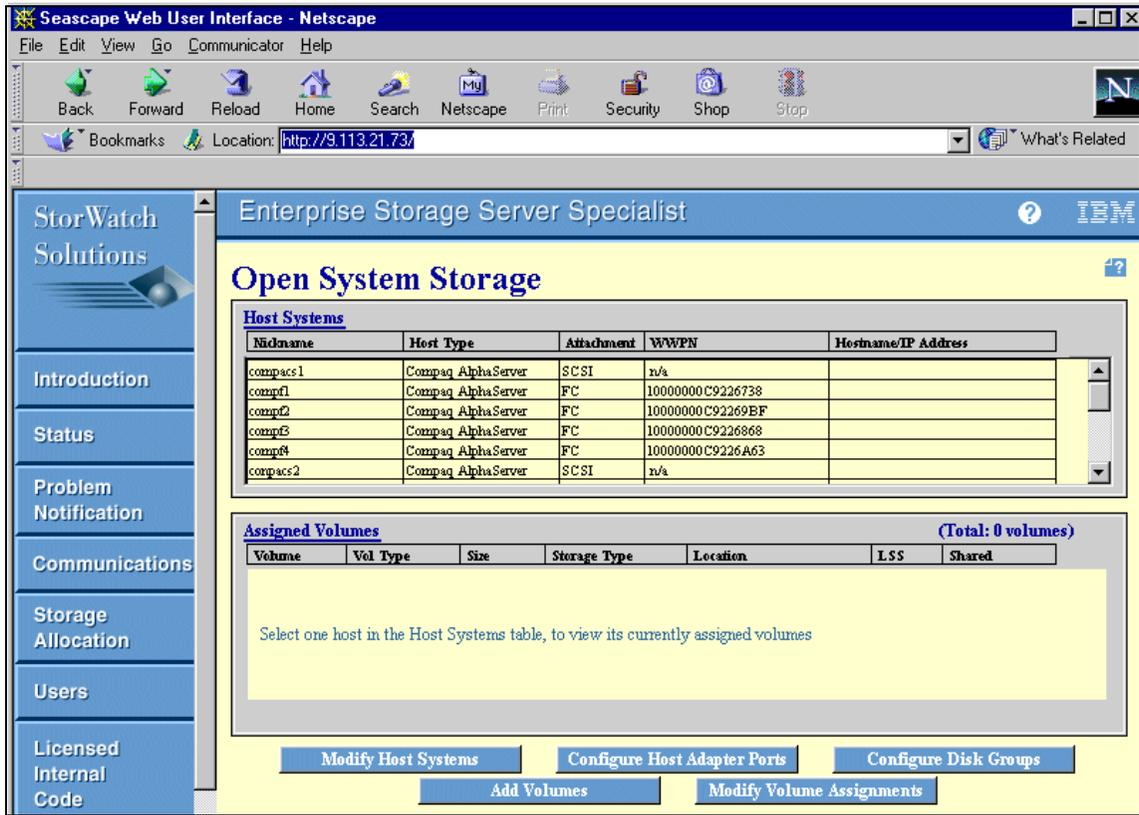

Figure 11. Open System Storage screen
5. Click **Open System Storage** (Figure 11).